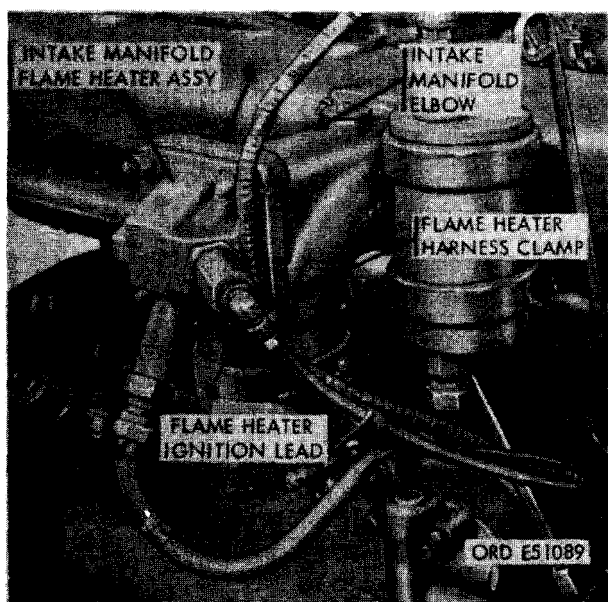

FIGURE 245. REMOVING OR INSTALLING INTAKE MANIFOLD FLAME HEATER ASSEMBLY
b. Continue to disassemble the engine by removing components from the right side following instructions for figures 245 through 256.
- (1) Figure 245. (A) Disconnect flame heater fuel solenoid valve-to-flame heater nozzle tube from 1/8 pipe x 1/4 tube, 90 degree elbow in flame heater nozzle and holder assembly. (B) Disconnect flame heater fuel return-to-solenoid valve tube from 1/8 pipe x 1/4 tube connector in flame heater nozzle and holder assembly. (C) Disconnect flame heater ignition lead from spark plug and ignition unit. Remove ignition lead. (D) Remove four 5/16-inch plain nuts and 5/16-inch lock washers securing intake manifold flame heater assembly to intake manifold elbow. Remove flame heater harness clamp. (E) Remove the flame heater assembly.